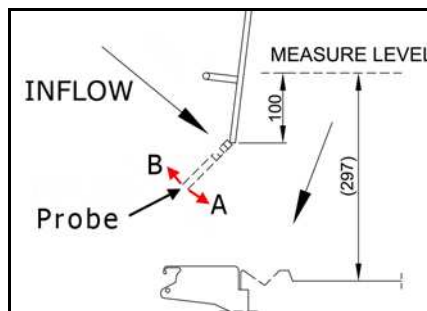
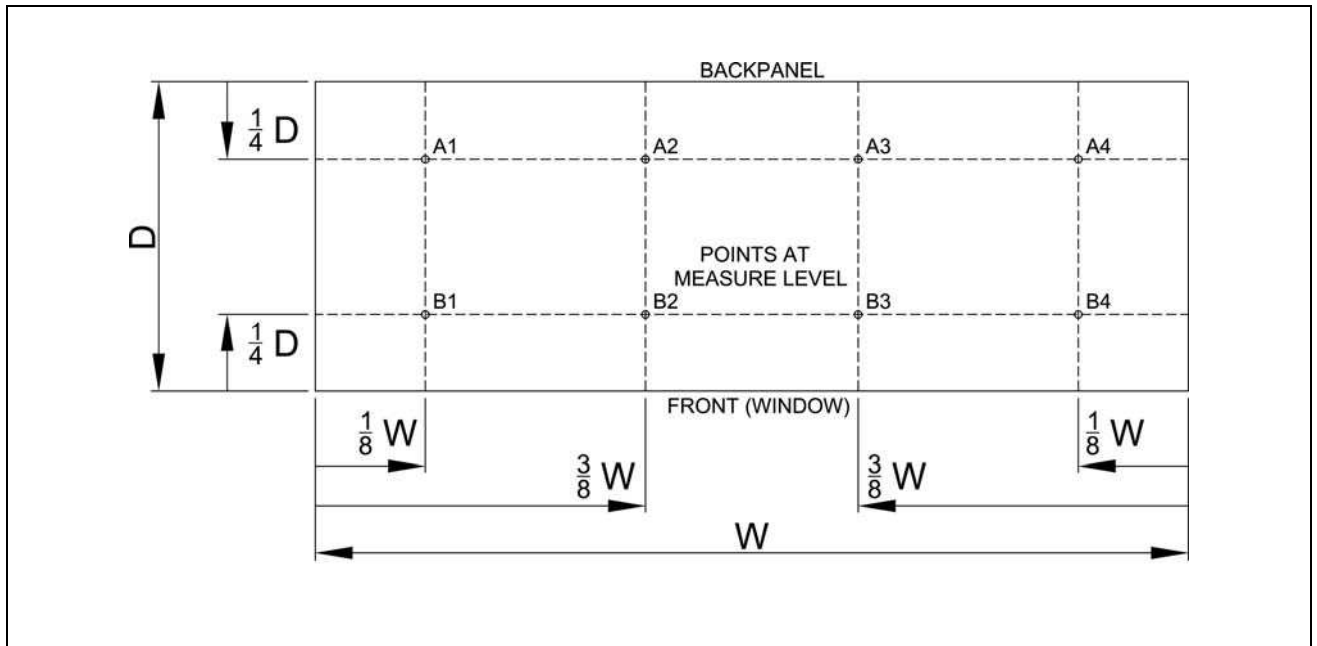

Figure 31 Measuring level
Figure 33 Measuring points downflow
- Measure the airspeeds according to the pattern of *Figure 33* with an anemometer at a height of 100 mm above the front opening (see *Figure 31*). This measurement must be done for at least one minute on each position.